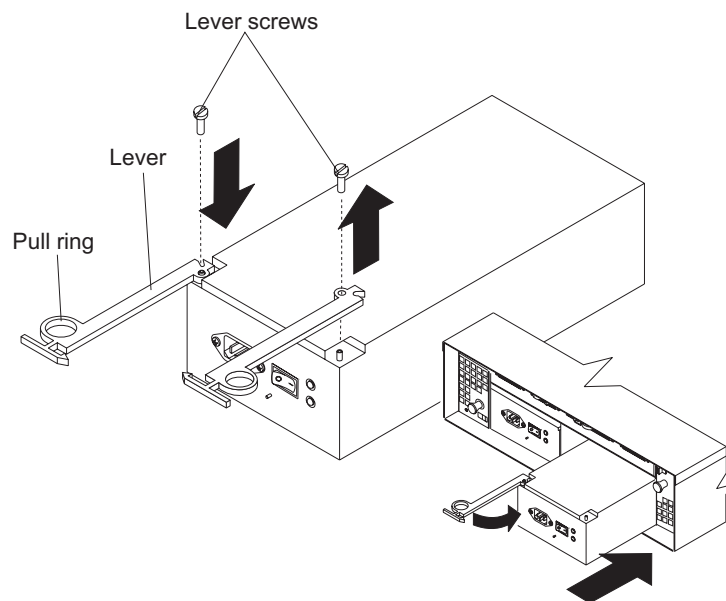

Figure 48. Moving the power supply lever and replacing the failed hot-swap power supply
Note: Before you replace the failed power supply, ensure that the new power supply lever is attached to the side of the power supply that faces the middle of the expansion enclosure. If it is not, remove the lever screw, flip the lever over, and tighten the screw on the opposite side as shown in Figure 48.
- a. Slide the power supply into the expansion enclosure. Be sure that the lever is pulled straight out as you slide the power supply into the expansion enclosure (see Figure 48 on page 88).